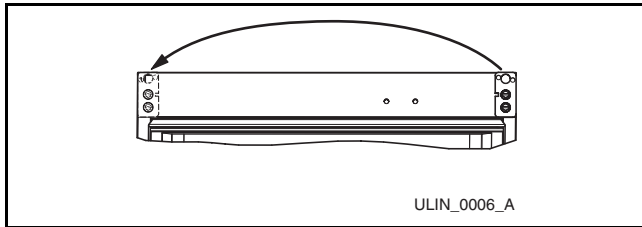

Figure 38
- With bottom of door facing up, remove pivot plate (two screws), flip over, and remount on opposite side of door (**Figure 38**). **Be sure notch in plate faces center.**